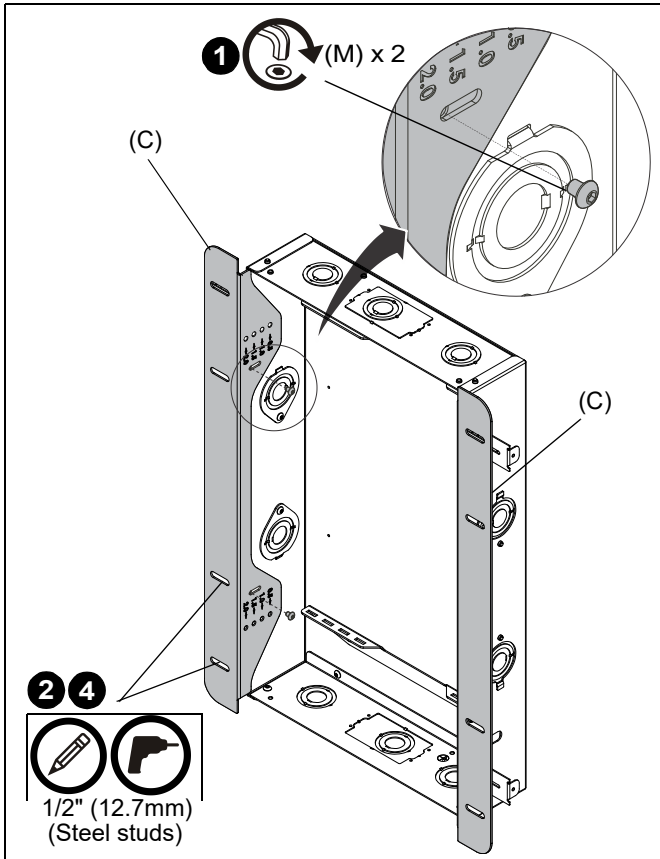

Figure 11
3. Use two #10-24 x 1/4" button head cap screws (M) to secure each side flange to boxes from FPIWSBMKIT1. (See Figure 11)
1. Mark pilot holes on studs at the top and bottom slot in each flange. (See Figure 11)
3. Drill a 1/2" (12.7mm) hole at each marked location. (See Figure 11)